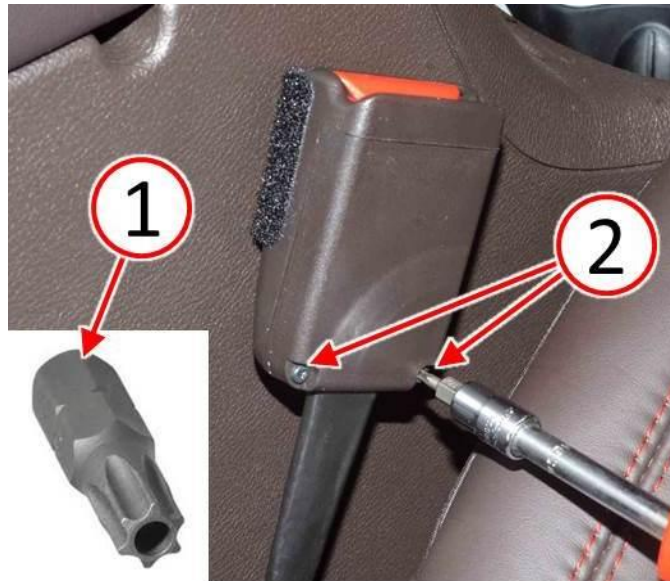

Fig. 2 Remove Seatbelt Buckle Cover Screws
3. Remove the two screws (2) from the lower buckle cover using a T10 tamper resistant 6-point star driver (1) (Fig. 2).